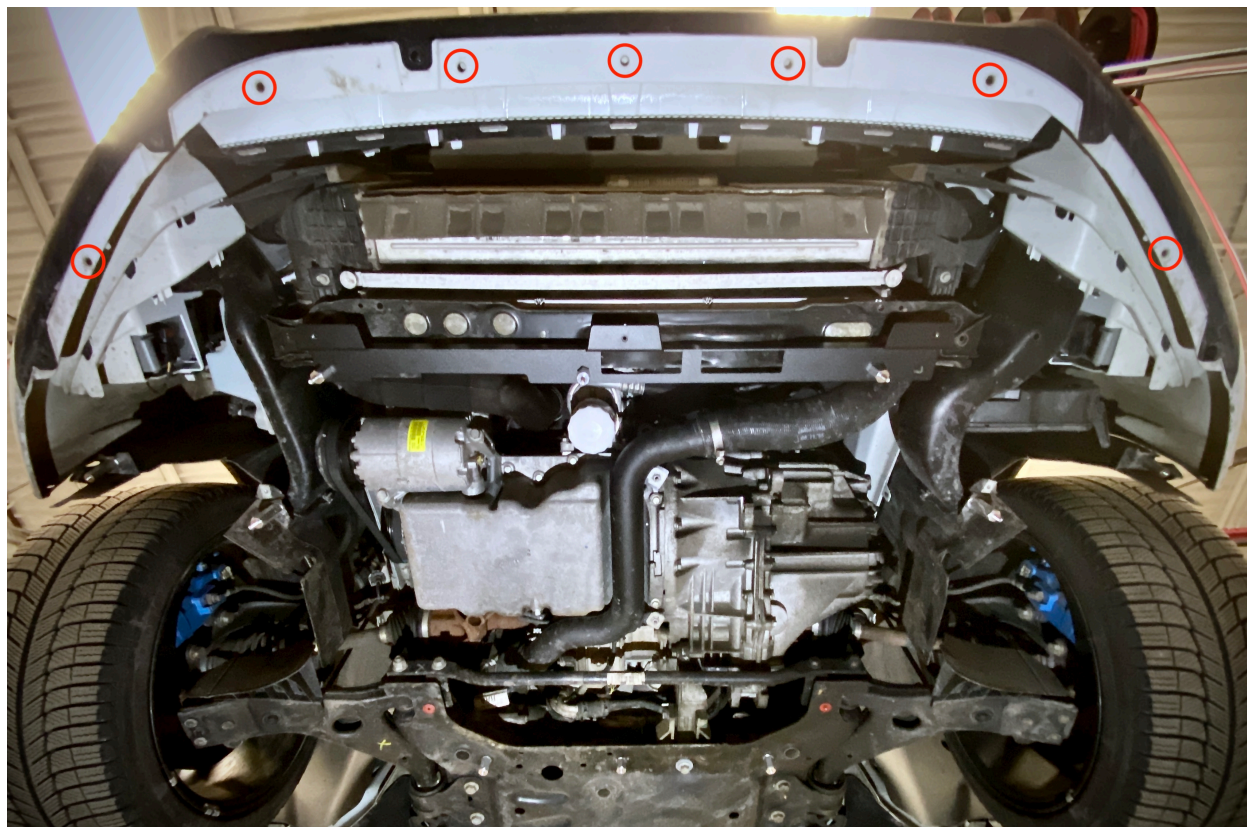

FIG. 2 - FASTENER LOCATIONS; MOUNTING BRACKET
- a. Remove seven plastic rivets from the front bumper cover. See **Figure 2** for locations circled in red *(The plastic rivets holding the gray/black trim do not need to be removed).*
- c. Fix the mounting bracket in place with the same three 1" standoffs removed earlier (*the three front skid plate standoffs*). The installed mounting bracket is pictured in **Figure 2**.